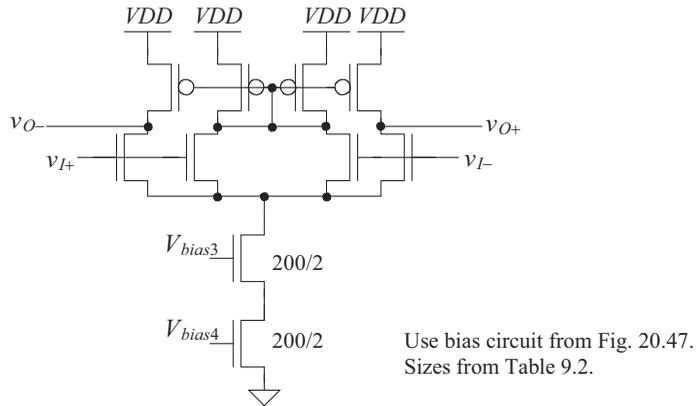

Figure 22.39 Fully differential diff-amp used in Problem 22.9.
- 22.9** The diff-amp configuration shown in Fig. 22.39 is useful in situations where a truly differential output signal is needed. Determine the following: (a) the transconductance of the diff-amp, (b) the AC small-signal drain currents of all MOSFETs in terms of the input voltages and g_{mn} (the transconductance of an n-channel MOSFET), and (c) the small-signal voltage gain, $(v_{o+} - v_{o-}) / (v_{i+} - v_{i-})$. Verify your answers with SPICE.